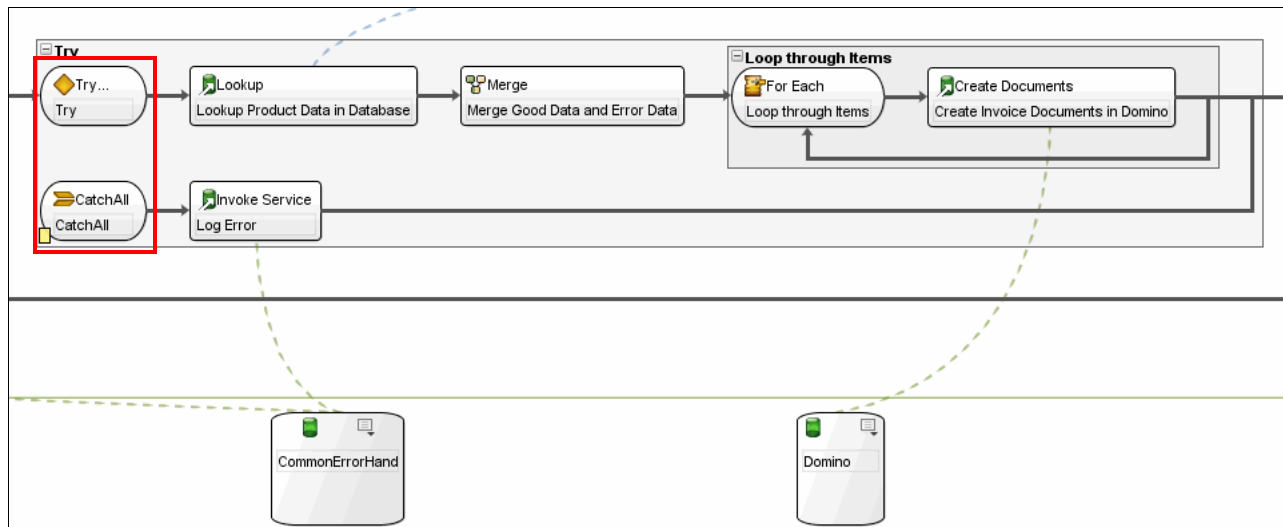

Figure 12-82 Try catch block
4. A Try activity is added that encapsulates and handles errors for the activities shown in Figure 12-82 on page 514. The Invoke Service is added to the CatchAll branch.